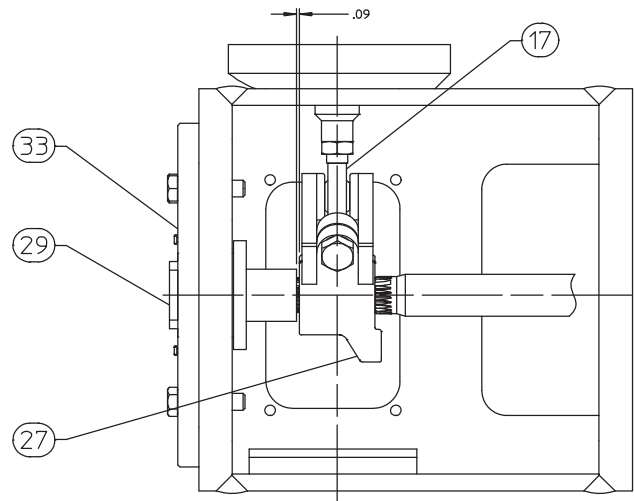

Figure 4. Lever Operating Clearance
4. Screw the left-hand threaded locknut (key 58) onto the diaphragm rod (key 10) as far as possible.
5. Screw the turnbuckle (key 57) as far as it will go onto the actuator rod.
6. Screw the locknut (key 16) as far as it will go onto the rod end bearing (key 17). Thread this assembly completely into the turnbuckle (key 57).
7. If the lever (key 27) is attached to the rod end bearing, remove the cap screw and hex nut (keys 18 and 19).
9. Slide the lever into place (see figure 4). Clamp with the cap screw (key 28).
10. Rotate the lever (key 27) to align with the rod end bearing (key 17). This connection can be aided by moving the actuator off its up travel stop with a regulated air source and adjusting the turnbuckle (key 57) slightly.
11. Apply sealant (key 77) or equivalent thread-locking compound to the threads of the cap screw (key 18).
12. Connect the lever (key 27) and the rod end bearing (key 17) with the cap screw and hex nut (keys 18 and 19). Tighten the cap screw to the recommended bolt torque shown in table 2.
13. Note the valve position and direction of rotation. Position the travel indicator (key 37) according to the valve position just noted.